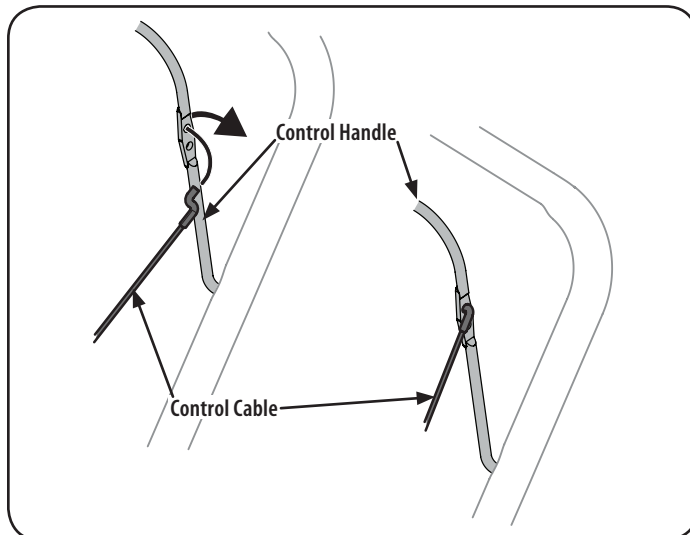

Figure 2
1. The upper hole in the control handle provides for an adjustment in cable tension. To adjust, disconnect the end of control cable from the bottom hole in the control handle and reinsert it in the upper hole. Insert the cable from the outside as shown in Figure 2.